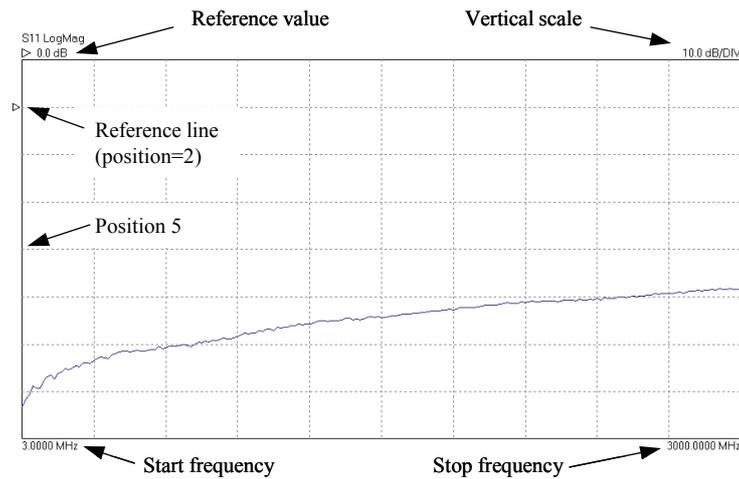

Figure 6.3 Display graph parameters
- Select the vertical axis values from the ‘Vertical Axis’ section. If desired, the Autoscale button can be clicked to automatically set the sensitivity and reference values. Note that reference position 1 is at the top (Fig. 6.3).